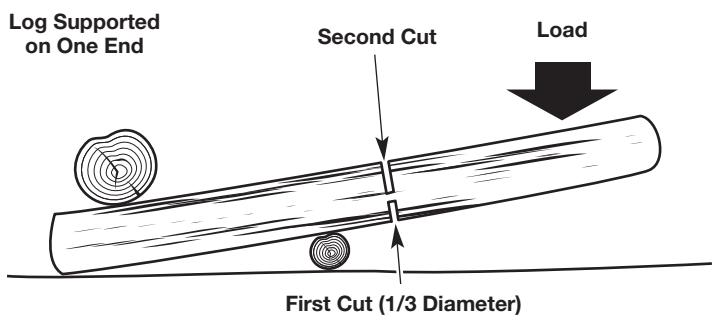

Fig. 14
- If the log is supported on one end (Fig. 14), make the first cut from below (*Underbuckling*). Refer to *Underbuckling*.